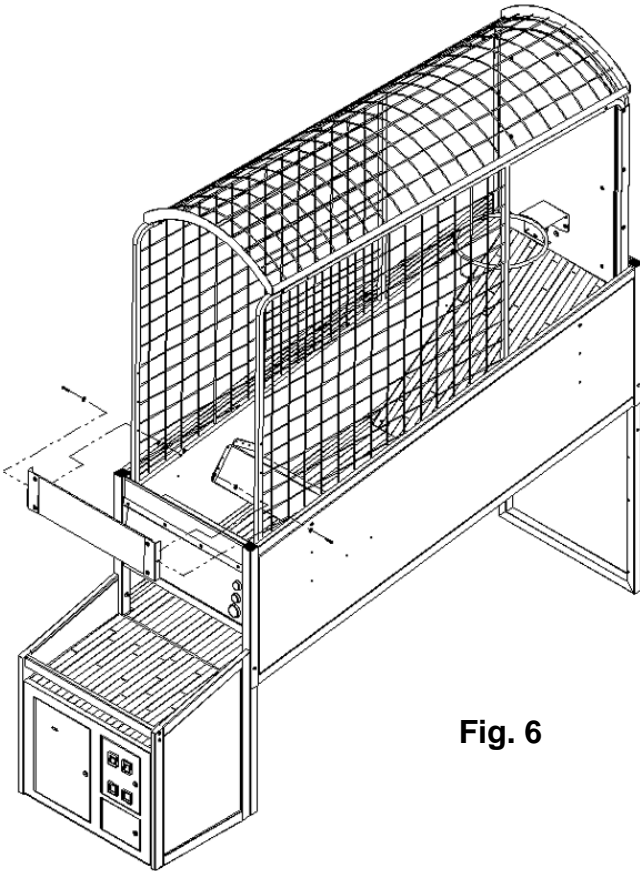

Fig. 6
11. Install the rebound guard using (2) 1/4-20 X 1 1/2" button head screws, (4) flat washers and (2) Nylock nuts. (See Fig. 6)